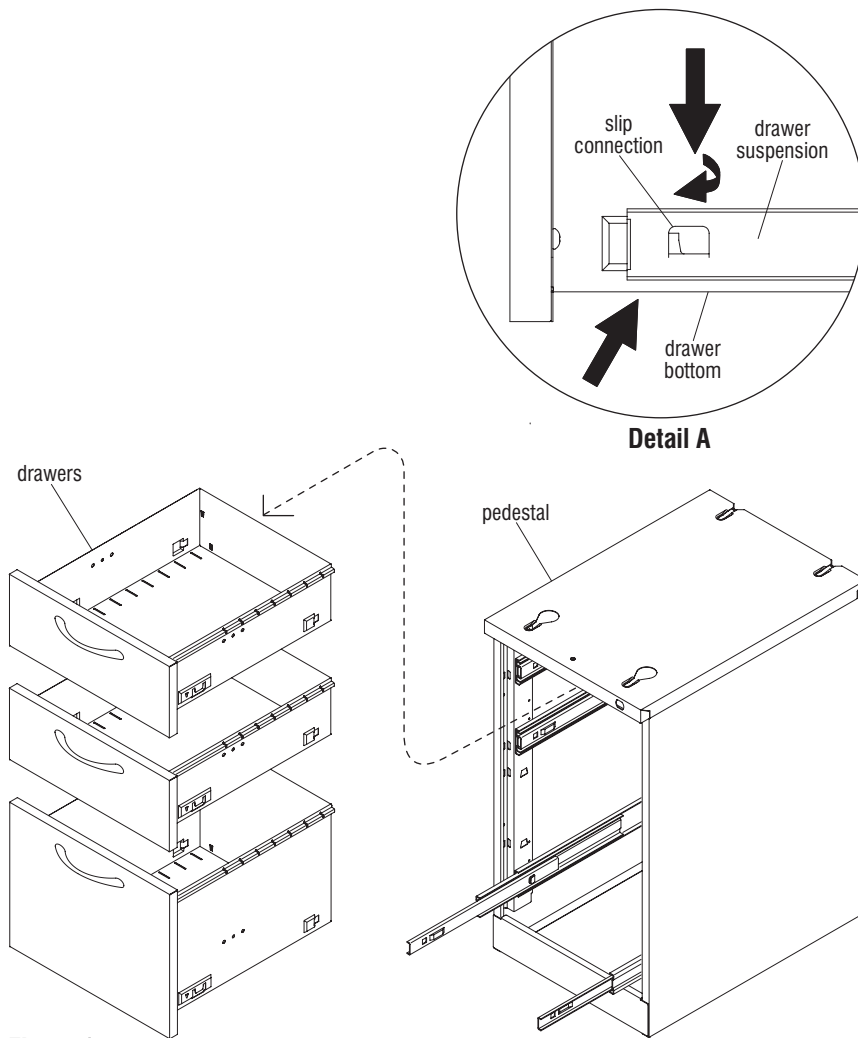

Figure 1
1. Empty the contents of file drawers and open drawer until suspension is fully extended (Figure 1).
4. The drawer will now slip free from the rear connections by pulling the drawer evenly at a slight angle upwards (Figure 1).